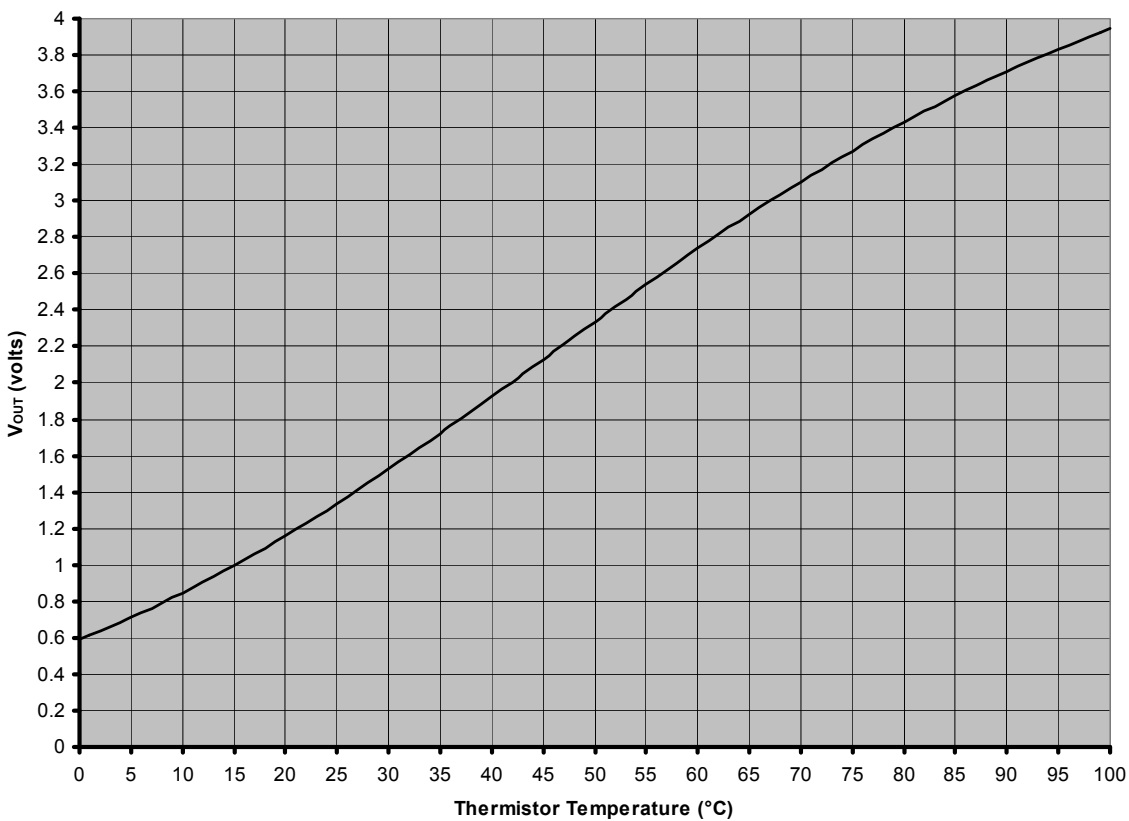

Figure 20: Thermistor temperature calculation chart
2. Use the chart in Figure 20 to calculate the thermistor temperature.